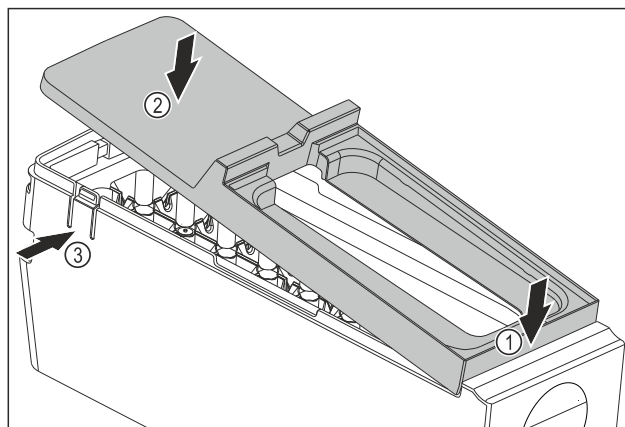

Fig. 134
- Installing the EasyTwist-Ice body cover: Place the cover on the front. Fig. 134 (1)
- Lower the cover at the rear. Fig. 134 (2)
- ▷ The cover locks into both tabs Fig. 134 (3) audibly.